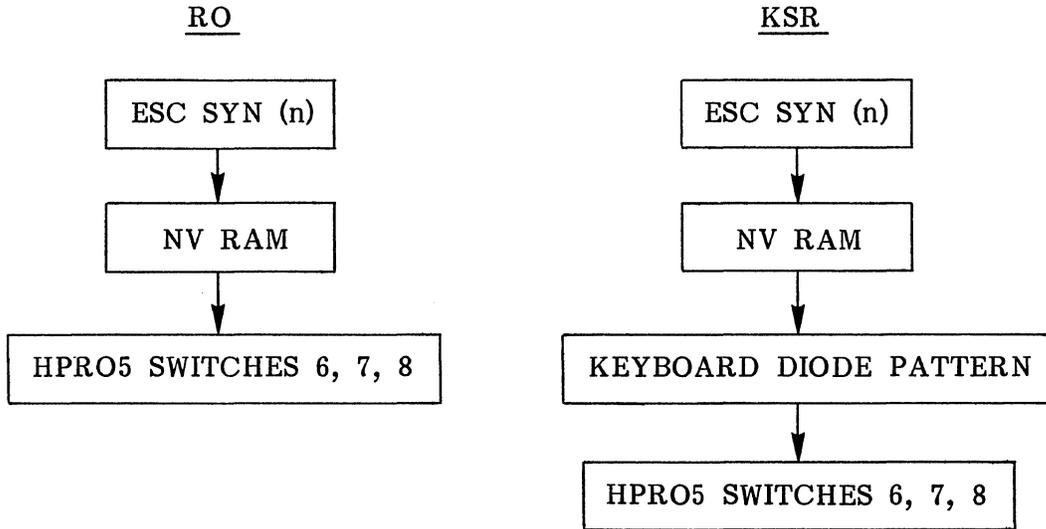

Figure A-1. LANGUAGE SELECT PRIORITY CHART
Figure A-1 indicates the order of priority for each means of language selection in the RO and the KSR Model 630. In all cases, ESC SYN (n) has the highest priority, and the HPRO5 circuit board switches 6, 7 and 8 have the lowest priority. When the nonvolatile (NV) RAM is present, the stored language select parameter dictates language selection. In units with NV RAM, language selection can be changed only by the sequence ESC SYN (n).